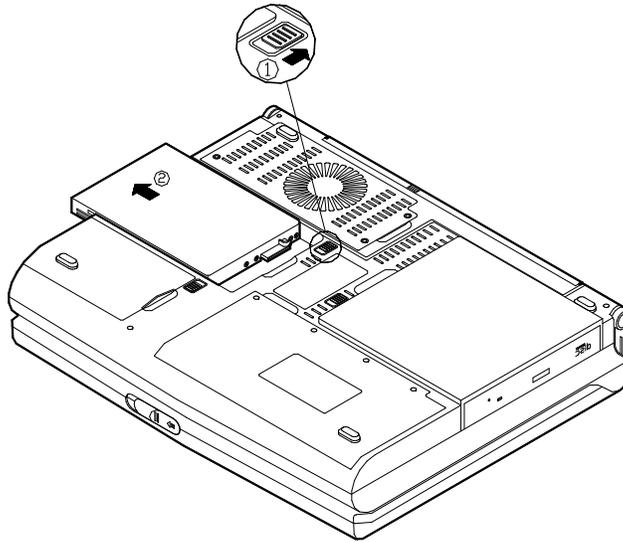

Figure 2-13
4. Press the latch in the direction indicated and slide the floppy diskette drive out of the Notebook (Figure 2-13).